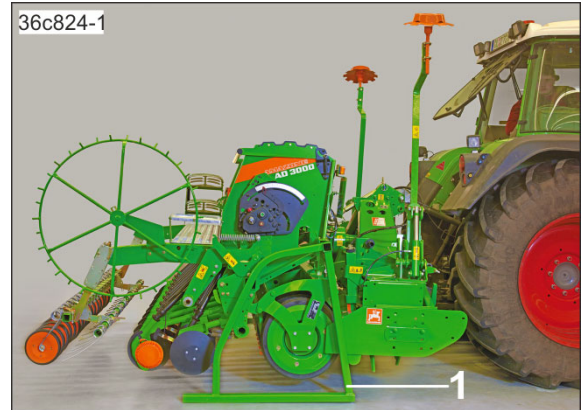

Fig. 97
9. Remove the parking supports (Fig. 97/1).